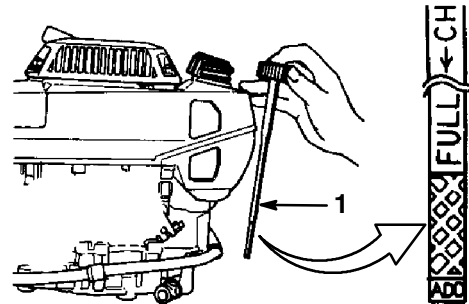

Figure 5
Before each use, ensure that the oil level is between the *Add* and *Full* marks on the dipstick (Fig. 5).
2. Clean around the dipstick (Fig. 5).
6. Read the oil level on the dipstick (Fig. 5).